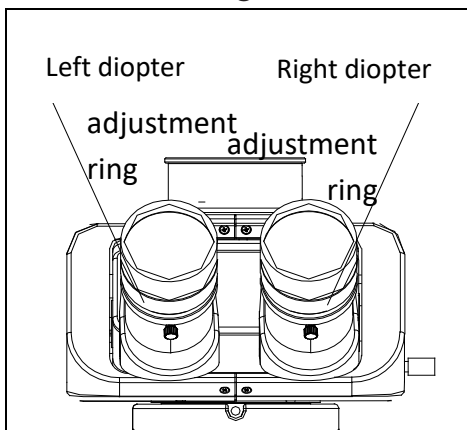

Fig.16
4. Rotate the diopter adjustment ring of right eyepiece if the image is unclear when observed with the right eyepiece. (See Fig. 16)
5. Then rotate the zoom knob to the maximum magnification, if the image is not clear enough when observed with the right eyepiece, repeat Step (3)~(5) as above.
6. Then rotate the zoom knob to the minimum magnification, turn the diopter adjustment ring of left eyepiece if the image is not clear enough when observed with the left eyepiece. (See Fig. 16)